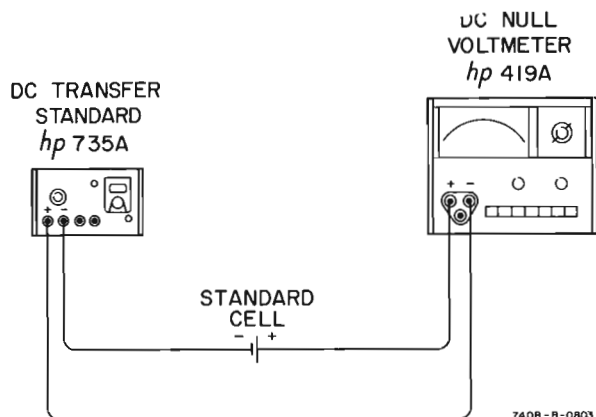

Figure C-4. Transferring the Standard Cell Voltage
- b. Construct the calibration setup shown in Figure C-4. Make connections with insulated solid copper wire, 20 gauge or larger. Omit one connection to the standard cell.